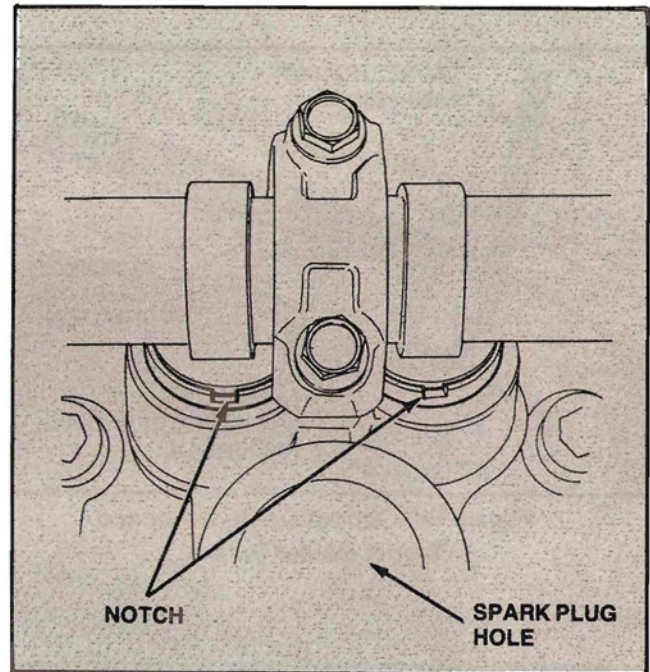

Figure 138. Positioning the Notch
2. Position the notch of the valve lifter toward the spark plug (Fig. 138).